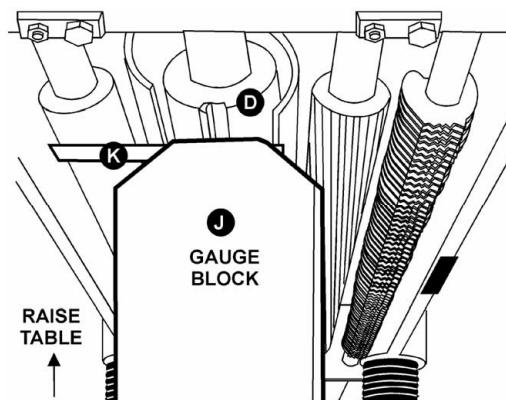

Figure 26
3. Place the gauge block (J, Fig. 26) on the table directly underneath the cutterhead (D,
Fig. 26). Using a 0.02" (0.5mm) feeler gauge (K, Fig. 26) placed on top of the gauge block, raise the working table until the knife just touches the feeler gauge when the knife is at its lowest point. Do not move the working table any further until the outfeed roller is adjusted.